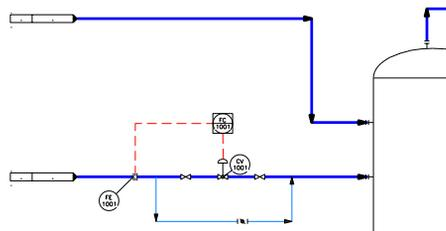

Figure 2-86 Off page connectors placed at the endpoints of the feed line and reflux line
- Similarly, place off page connectors at the locations shown in Figures 2-86 and 2-87.